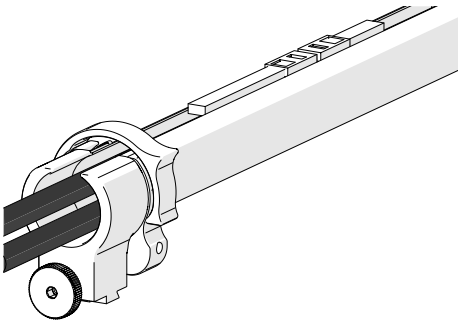

Fig. 86 - Zip opposite end
3. Once the cable is placed the entire length of the sleeving, bring the zipper from the sleeving's opposite end, meeting at any point in the middle (*Fig. 86*).